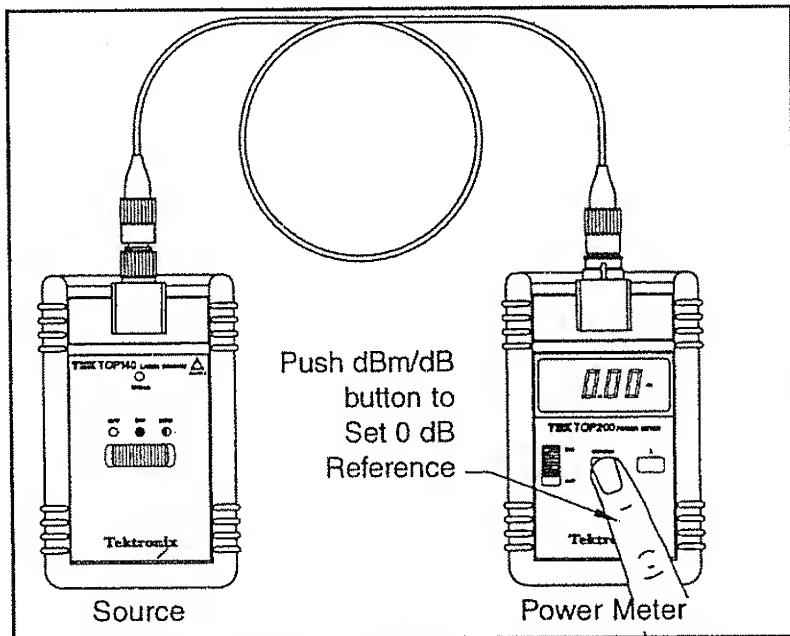

Fig 4.2 Establishing a Reference Measurement
- B) Switch the source to continuous (CW) light output and the power meter to the appropriate wavelength (using button) and dBm units. Note the dBm output of the reference cable should be within acceptable limits.
C) To store this reference level, press the [dBm/dB] button (for about 2-3 seconds until the little "r" annunciator appears on the LCD display) and the display reads 0.00dB. See Figure 4.2